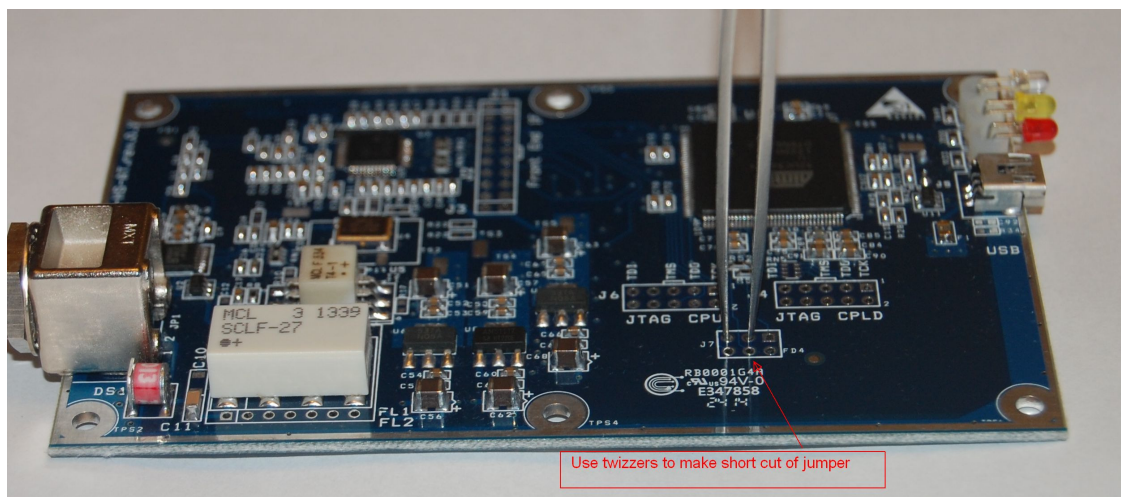

Figure 3.1.1 Jumper place (short cut by twizzers)
3.1.4. You need to switch AFEDRI SDR-USB-HS to firmware upgrade mode using command that sent from "SDR Network Control Box" application. User need to press the button "Firmware Upgrade", that is located on the "About" tab (see **Figure 3.1**). Alternatively you can boot SDR in Firmware upgrade mode using twizzers and shorting pins 5 and 3 of J7 connector and connecting USB cable to PC when this two pins are shortened (see Figure 3.1.1).